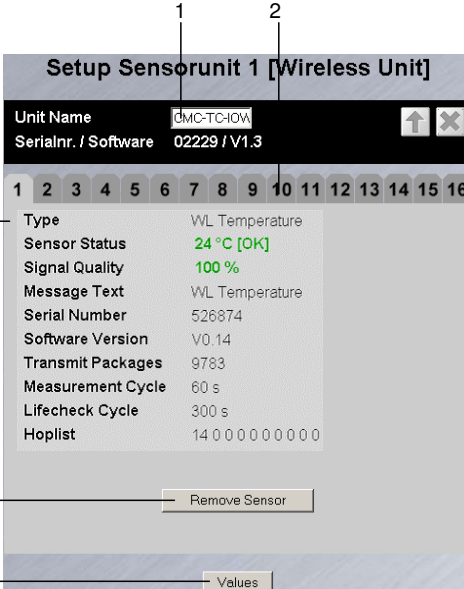

Fig. 26 Sensor information
- 6 Additional configuration: see sensor configuration fig. 26.